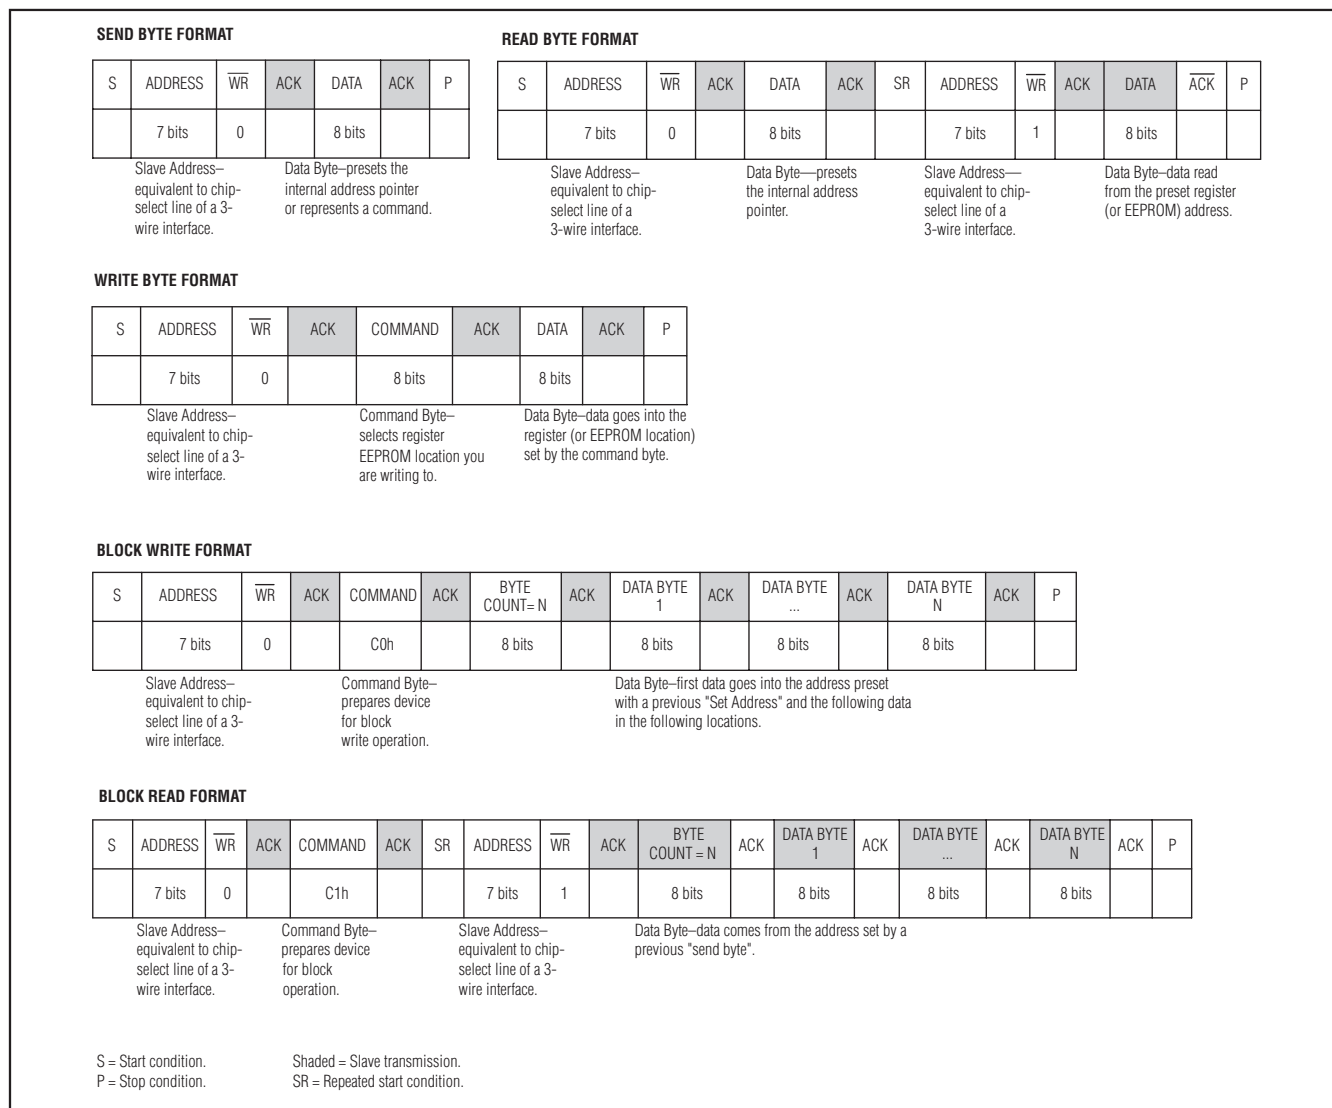

Figure 8. SMBus/I²C Protocols
A REPEATED START (SR) condition may indicate a change of data direction on the bus. Such a change occurs when a command word is required to initiate a read operation (see Figure 8). SR may also be used when the bus master is writing to several I²C devices and does not want to relinquish control of the bus. The MAX6889/MAX6890/MAX6891 serial interface supports continuous write operations with or without an SR condition separating them. Continuous read operations require SR conditions because of the change in direction of data flow.
The send byte protocol allows the master device to send one byte of data to the slave device (see Figure 8). The send byte presets a register pointer address for a subsequent read or write. The slave sends a NACK instead of an ACK if the master tries to send an address that is not allowed or if the device is writing data to EEPROM or is booting. If the master sends C0h, the data is ACK. This could be the start of the block write protocol, and the slave expects the following data bytes. If the master sends a Stop condition, the internal address pointer does not change. If the master sends C1h, this signifies that the block read protocol is expected, and a repeated Start condition should follow. The device reboots if the master sends C4h. The send byte procedure follows:
The write byte protocol allows the master device to write a single byte in the register bank or in the EEPROM (configuration or user) (see Figure 8). The Write Byte procedure follows:
The block write protocol allows the master device to write a block of data (1 to 16 bytes) to the EEPROM or to the register bank (see Figure 8). The destination address must already be set by the send byte protocol and the command code must be C0h. If the number of bytes to be written causes the address pointer to exceed 2Fh for the configuration register or B7h for the configuration EEPROM, the address pointer stops incrementing, overwriting the last memory address with the remaining bytes of data. Only the last data byte sent is stored in B7h (as 2Fh is read only and a write causes no change in the content). If the number of bytes to be written exceeds the address pointer 7Fh for the user EEPROM, the address pointer stops incrementing and continues writing exceeding data to the last address. Only the last data is actually written to 7Fh. The block write procedure follows:
The read byte protocol allows the master device to read the register or an EEPROM location (user or configuration) content of the MAX6889/MAX6890/MAX6891 (see Figure 8). The read byte procedure follows:
The block read protocol allows the master device to read a block of 16 bytes from the EEPROM or register bank (see Figure 8). Read fewer than 16 bytes of data by issuing an early STOP condition from the master, or by generating a NACK with the master. Previous actions through the serial interface predetermines the first source address. It is suggested to use a send byte protocol, before the block read, to set the initial read address. The block read protocol is initiated with a command code of C1h. The block read procedure follows: